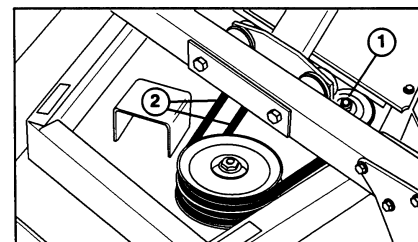

Figure 66
2. To tension belts, loosen flange locknut at top of idler pulley (Fig. 66). Slide pulley against belt until proper tension is reached. Hold pulley in position and tighten locknut.